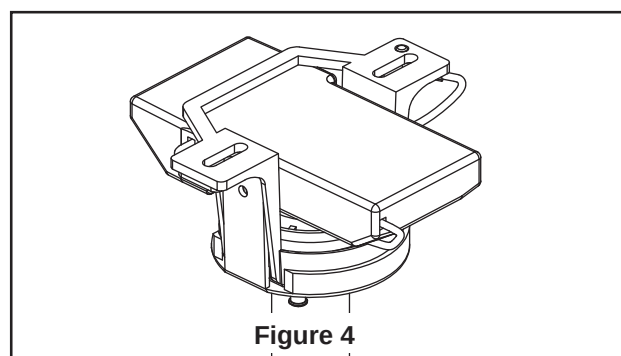

Figure 4
3. Once the connection has been made, slide the receiver into the hanger bracket, taking care not to pinch the wires. (Figure 4)